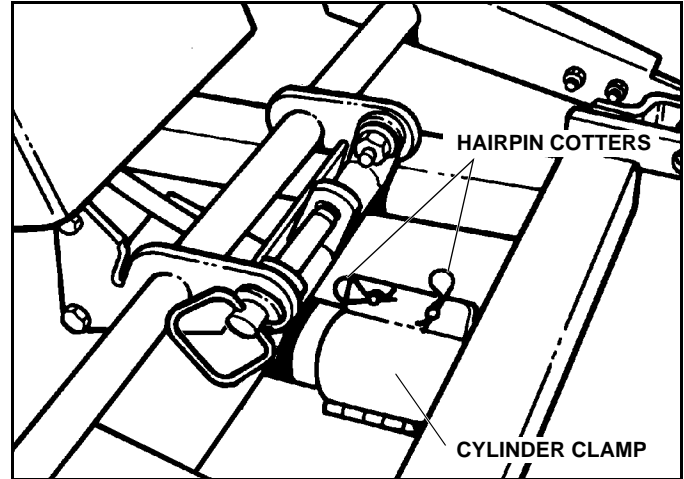

Figure 1-5
4. Position the Cylinder Lock Clamp around the exposed (chrome) portion of the Lift Cylinder and install the Pins. Install the Hairpin Cotter Into the Pins. (See Figure 1-5)